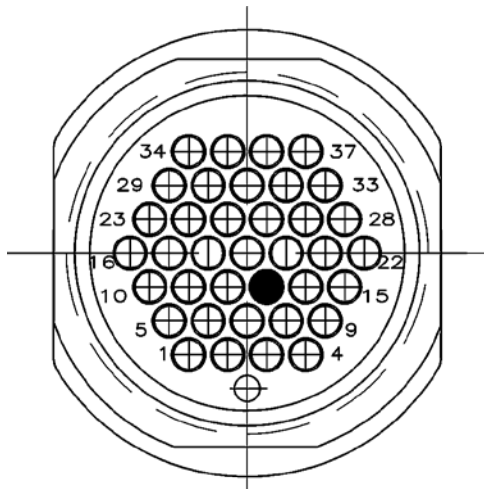

FIGURE 16: C2 PINOUT
13. Locate A36; C18 and connector C2. (Figure 16) You will find C2 quite deep inside the cavity shown by the arrow, on the ceiling above the pneumatic panel.